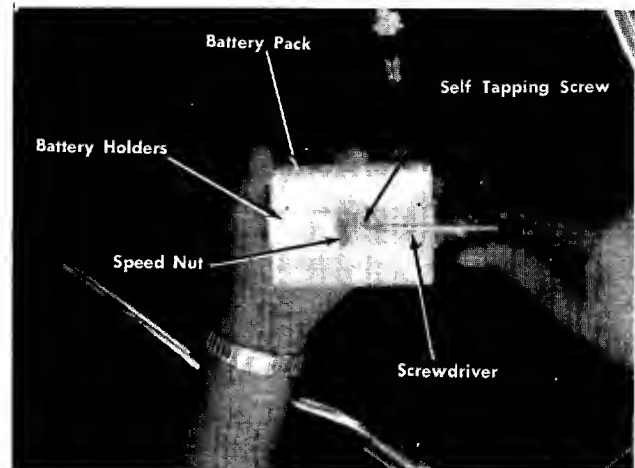

FIGURE 4. ASSEMBLY OF BATTERY HOLDERS
3. Place both battery holders around battery pack. See figure 4.
4. Secure battery holders to battery pack with a hex slotted self tapping screw. See figure 4.